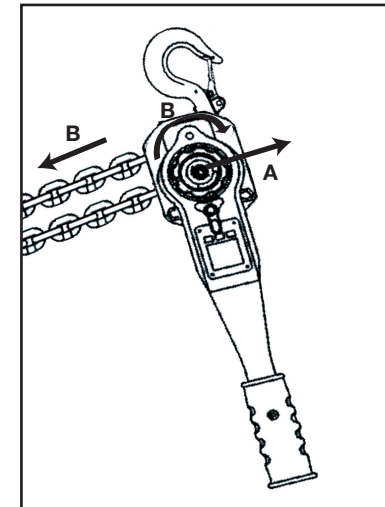

FIG 4
2. Place the selector switch on the handle in the center neutral position, and pull out on the hand wheel (A, FIG 4). This will allow “freewheel” mode. Pull the load chain by hand to position the bottom hook.
4. Rotate the hand wheel clockwise while simultaneously pulling down on the load chain, (B, FIG 4). The hand wheel will snap back into place, re-engaging the gear.